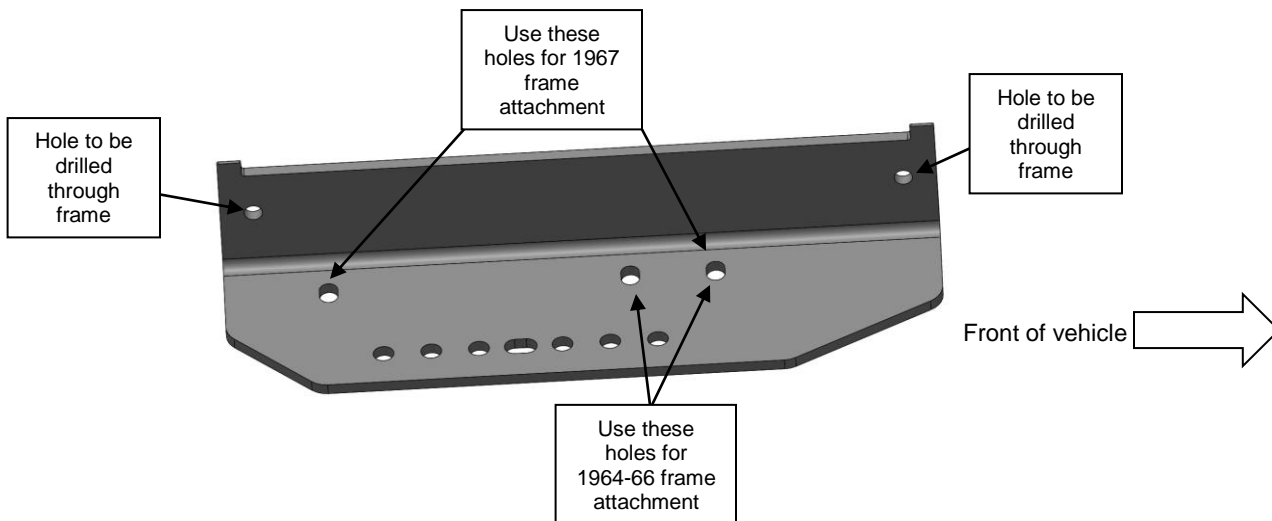

Figure 1 (Driver's side bracket shown – passenger's side similar)
2. Attach the supplied left and right side frame adapter brackets to the bottom flange of each frame rail using the supplied (x4) 3/8" bolts. Align the frame attachment holes in the adapter brackets with two rearmost located holes in the 1964-66 frame pattern, or with the third hole from the front and the last hole in the 1967 frame hole pattern. See **Figure 1** for visual clarification.
3. Using a 3/8" bit, drill two holes through each vehicle frame rail that correspond to the two holes in the vertical walls of each frame adapter bracket (see **Figure 1**). Then, install (x4) supplied 3/8" bolts/nuts into the drilled holes and torque them to 47 lb./ft.